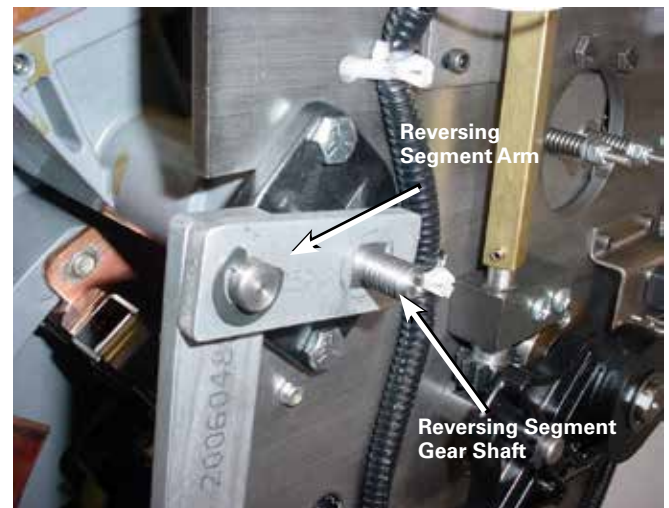

Figure 71. Placement of reversing segment arm.
- Place the reversing segment arm onto the reversing actuator shaft. Align the square portion of the shaft with the square hole in the arm. If needed, place a screwdriver through the movable contact tube and push the shaft forward while seating the arm over the shaft. It may be necessary to rotate the movable contact assembly slightly to align the shaft and hole. See Figures 71 and 72.